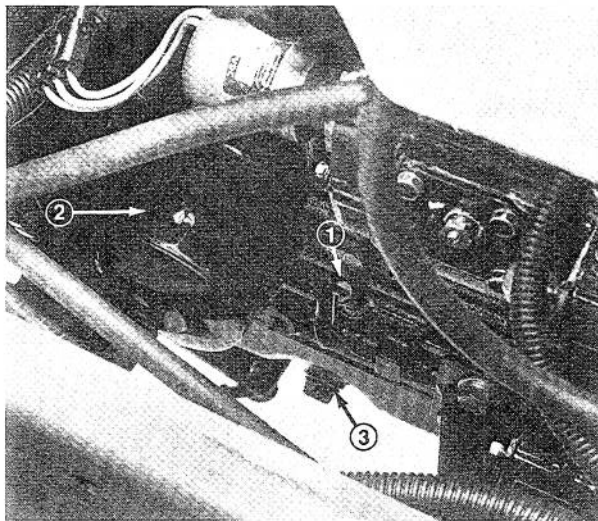
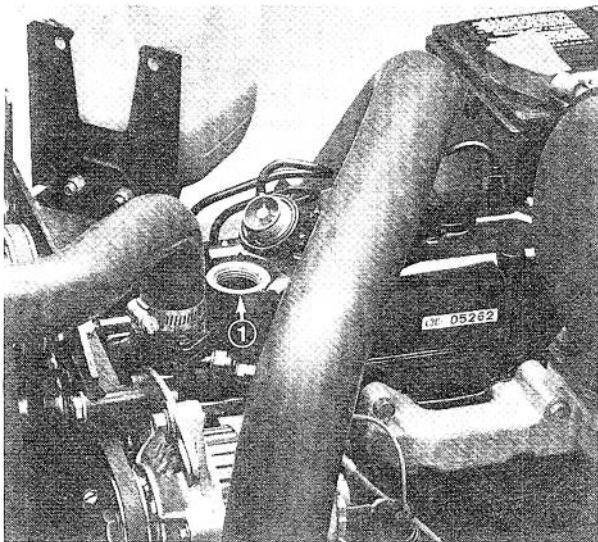

Figure 10
Figure 11
3. Remove dipstick and wipe it with a clean rag. Insert dipstick into the tube and make sure it is seated fully. Remove dipstick and check level of oil (Fig. 10). If oil level is low, add enough oil to raise level to FULL mark on dipstick. Do not overfill (Fig. 11).